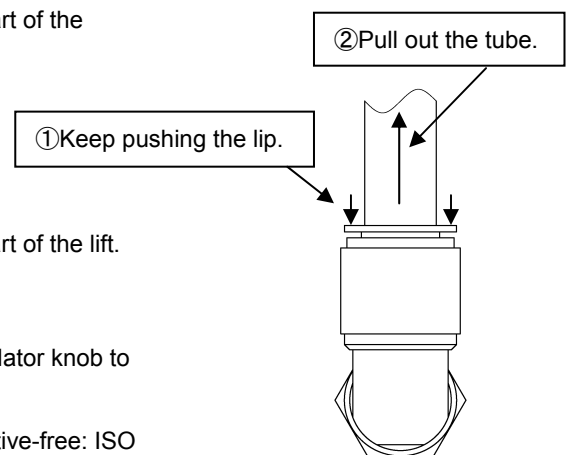

Fig. 8 Removal of tube
- Disconnect a tube from fitting on the air inlet. (Fig. 8)